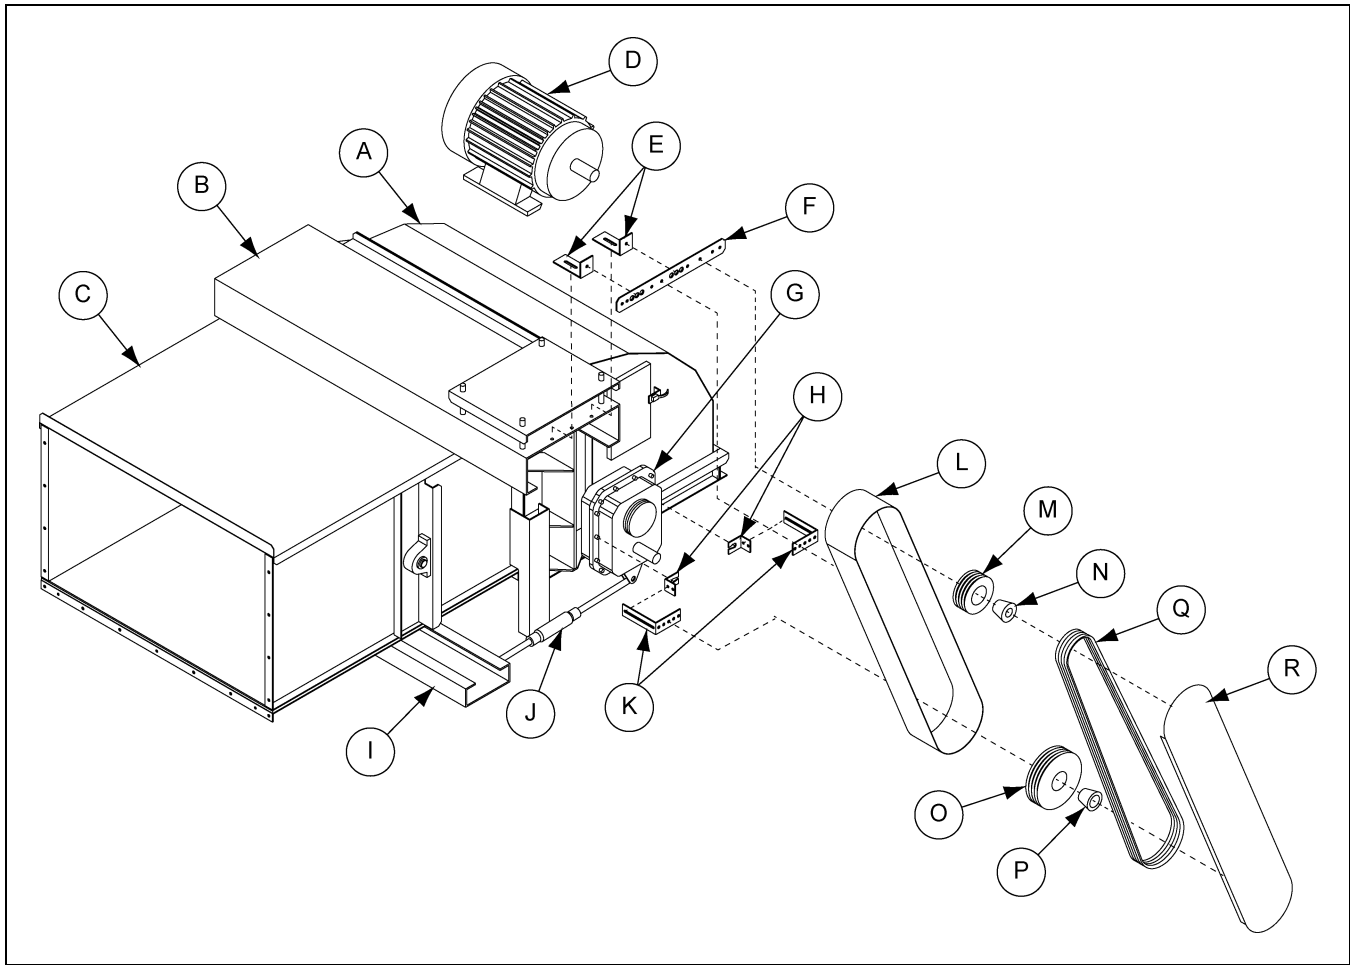

Figure 4T Typical Shaft Mount Drive Installation
Refer to Figure 4T on Page 28. Save and refer to the manufacturer's data supplied with the reducer. The reducer has a hollow output shaft. Tapered bushings in the output shaft seat the reducer on the conveyor head shaft. The input shaft faces away from the conveyor. The reducer should be positioned close to the head shaft bearing while leaving between 1.50"-2.44" depending on drive model for clearance to tighten and loosen the screws that draw the tapered bushings tight on the head shaft.
1. Slide the gearbox's hollow shaft onto the conveyors extended shaft with proper clearance on back side of the gearbox and tighten the taper-lock bushings to proper torque settings. (See Figure 4T on Page 28.)
2. Attach the torque arm bracket to the trough bottom directly behind the head. This should put the torque arm (J) into the proper tension state.
3. Attach the torque arm anchor bracket to the reducer housing (G).
5. Refer to Figure 4T on Page 28. Assemble the torque arm clevis bracket to the torque arm eye bolt.
7. Adjust the torque arm (J) so that the reducer (G) is vertical. Use the lock nut on the turnbuckle to prevent movement by vibration.
8. Attach the motor mount (B) to the top of the head assembly (A) through the given holes.
9. Fasten the motor (D) to the motor mount (B). The fasteners used will depend on the size and origin of the motor. DO NOT tighten motor mounting screws yet.
10. Fasten the belt guard mounting brackets (H) to the reducer (G), and brackets (E) to the motor mount (B). After installing the brackets (E), attach the mounting bracket guard TA (F) to the brackets (E).
11. Loosely fasten the belt guard WITH THE COVER REMOVED to guard mounting bracket (F). Hole locations for the mounting brackets will need to be found and drilled into the belt guard. Shift the guard so that the elongated hole for the reducer input shaft is vertically aligned and so the full range of adjustment is available. Tighten the guard mounting fasteners.
12. Assemble the drive (M) and driven sheaves (O) on the motor (D) and reducer (G) input shafts. Align the sheave faces and tighten the bushing set screws.
13. Fit the belts (Q) over the sheaves. Use the long screws in the motor bracket to take up the slack in the belt (Q). Make sure the guard does not rub on either shaft. Then re-install the belt guard cover (R).